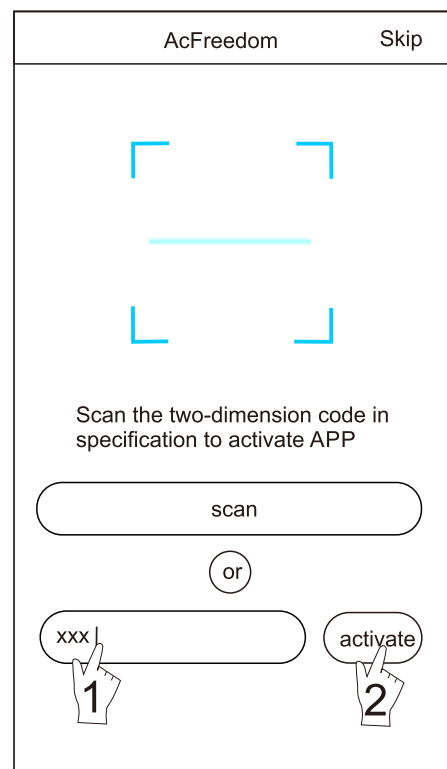

figure 4
2. By entering the activation code (6364d) in the area prompted by "enter activation code" (see Fig.4)